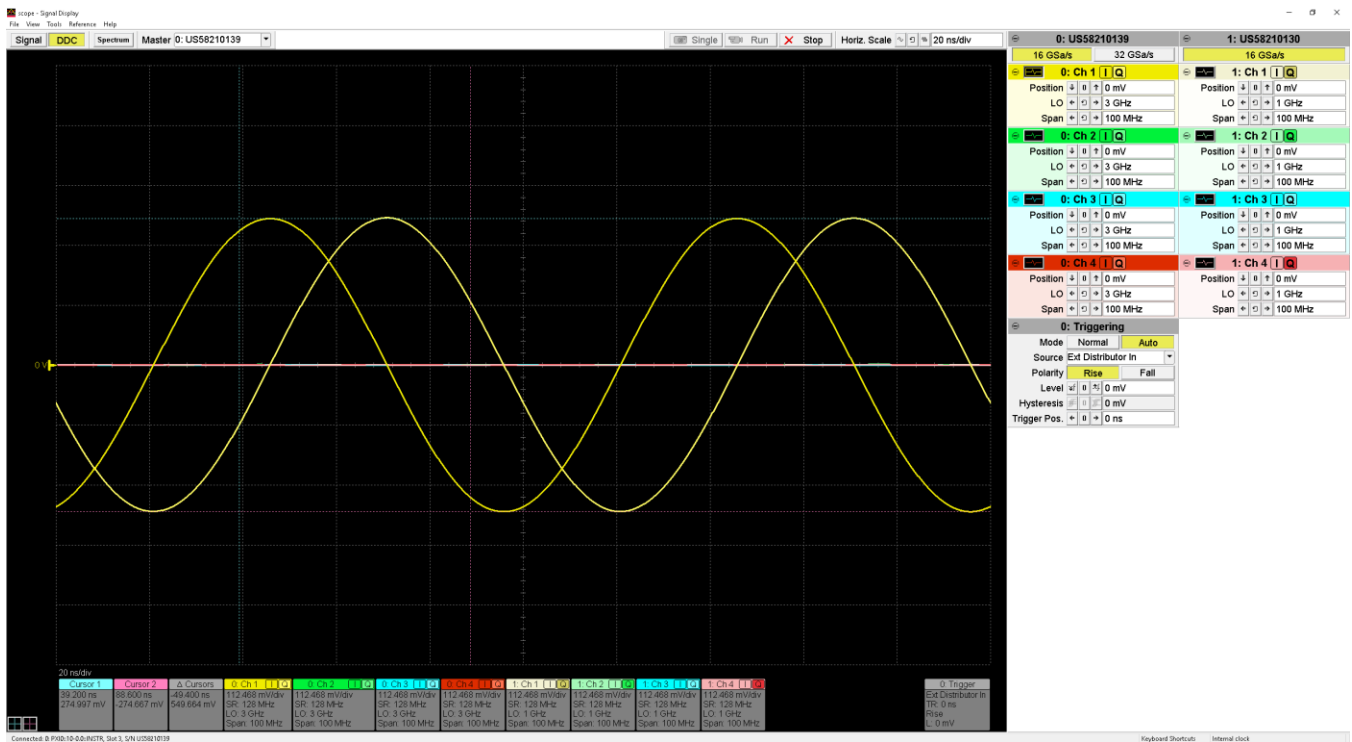

Figure 21. DDC signal (time domain) display with software control panel
- DDC Display mode - to observe down converted signal in time domain (See Figure 21)